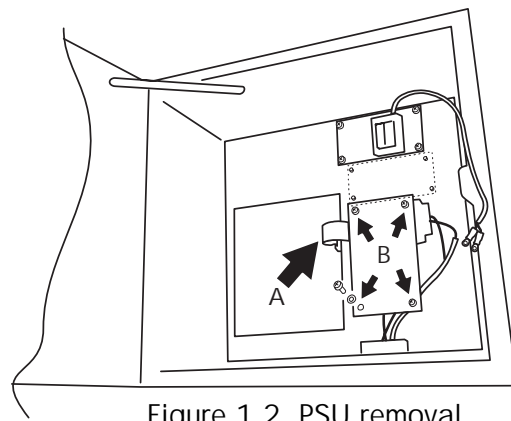

Figure 1.2 PSU removal
5. Remove the flexi-cable ('A' in figure 1.2) from its control board connector.
6. Remove the four securing screws ('B' in figure 1.2), and associated shakeproof washers, which secure the power supply unit (PSU) to the recorder chassis. Remove the insulating sheet and put to one side for use in re-assembly.
2. Remove the flexi-cable ('A' in figure 1.2) from its control board connector.
3. Remove the four securing screws ('B' in figure 1.2), and associated shakeproof washers, which secure the power supply unit (PSU) to the recorder chassis. Remove the insulating sheet and put to one side for use in re-assembly.